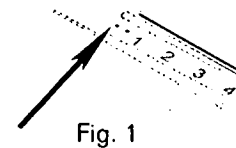

Fig. 1
1) **Z - Bars:** the left & right z-bars are notched for ease of installation. Measure the inside of each side of the opening, then mark the bottom of the z-bars measuring from where notched (fig.1) and cut. Fasten in place with two (2) # 8 x 1" screws in each for the present. (you may need to adjust them later.)